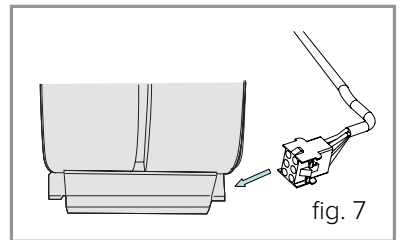

fig. 7
2. Turn the appliance on its back and disconnect the cable connector from the motor housing, as shown in figure 7.